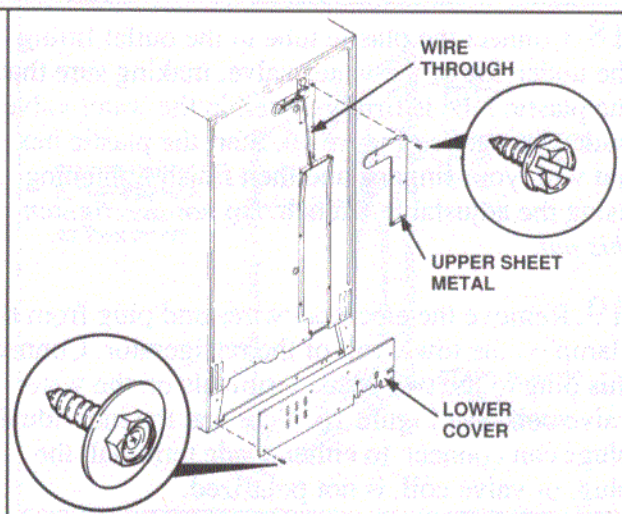

Figure 13
14. Remove the cover from the lower rear of the refrigerator and remove the upper sheet metal plate that covers the wire trough. See Figure 13. *Do not discard either the lower cover or the sheet metal plate.*
30. Install the upper sheet metal cover on the back of the refrigerator. See Figure 13.
4. Remove the lower rear cover from the refrigerator (Figure 13) and check the electrical connections to the water valve coil. The plugs must be tight on the spade terminals of the water valve coil. *Replace the lower rear cover before returning the refrigerator to normal use. The refrigerator will not operate properly with this cover removed.*